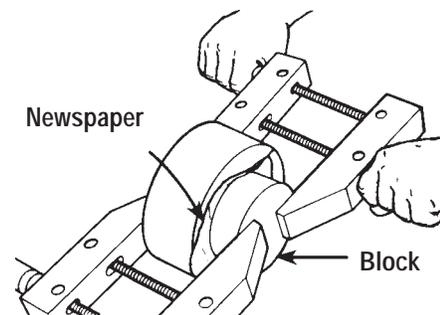

Figure D-50
- If you don't want screw holes in the bottom of your finished turning, mount the stock to a block of wood. Select a block at least 1" thick and about the same diameter as the faceplate. Find the center of this block, then glue the block to the stock, center to center. Put a piece of newspaper in between the block and the stock when you glue them up. Leave clamped at least 24 hours. See Figure D-50.